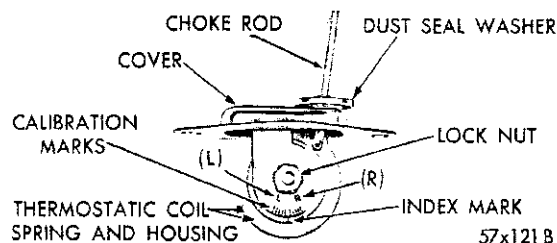

Fig. 26—Automatic Well Type Choke
(3) Figure 26 shows the component parts of the control unit along with the number stamped on the crown of the cover.
(4) When installing the well type choke unit, make certain that the coil housing does not contact